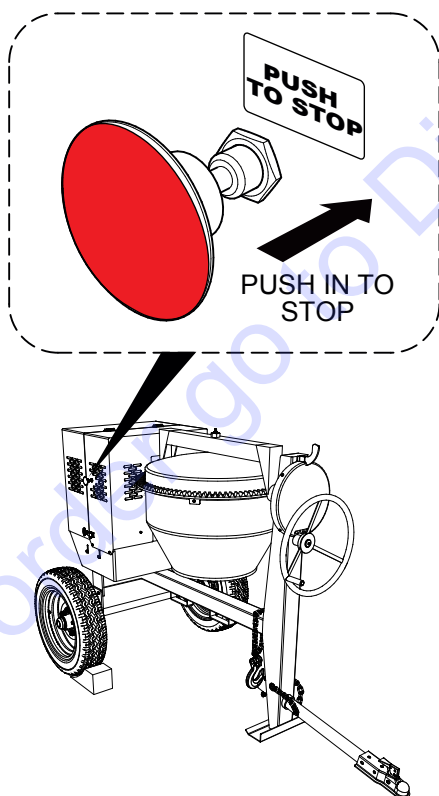

Figure 24. Start/Stop Button (Stop Position)
2. Push the engine **start/stop** switch (Figure 24) inward to stop the engine.